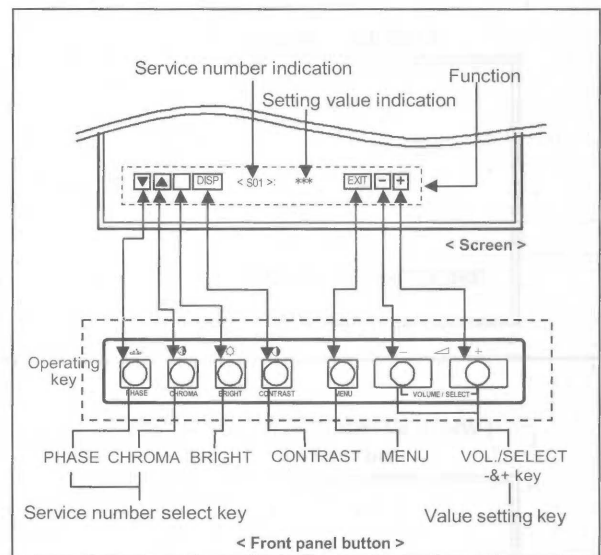

Fig. 6
**(3) SETTING VALUE CHANGES**
- While the adjustment mode menu is displayed. (Fig. 6)
- ① Press the + key to change the setting value in the + direction.
- ② Press the - key to change the setting value in the - direction.
- ③ Press the **PHASE** key or **CHROMA** key to select the service number.
**(4) SERVICE MENU EXIT**
- ① When settings are completed, press **MENU** key.
- ② The SERVICE MENU returns.
- ③ Again press **MENU** key.